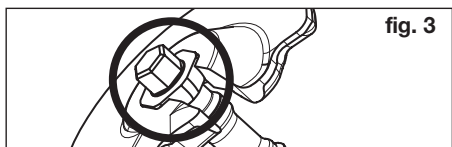

fig. 3
- Lower the spindle's **1** 6-point cap (calotte) from the top downwards into the reception hole of the upper tensioning jaw (**figure 3**).
- Check correct fit and assembly of the 6-point cap (calotte) (**figure 3**).